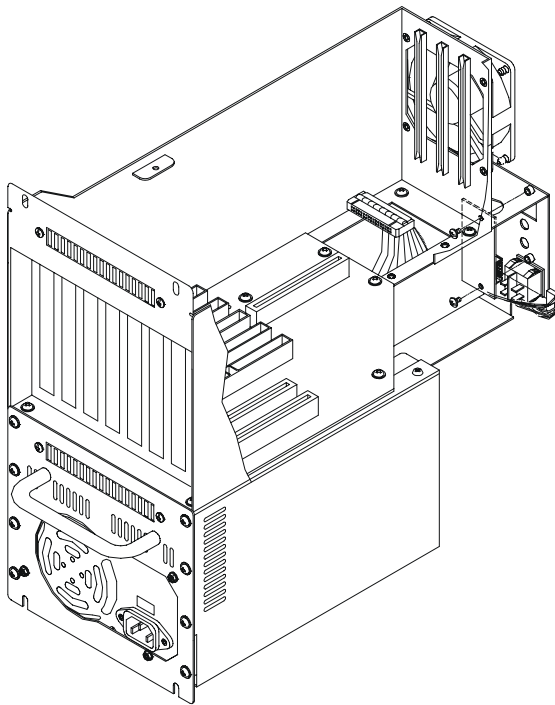

Figure 3.8: Removing the LED board
5. Unscrew the two screws, and replace the LED board. (See Fig. 3-8.)